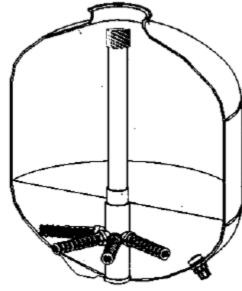

Fig. 13
2. Place the diffuser complete with the tube underneath the tank. Refill the tank with water until the first line you can see on the tank (Fig. 13). This procedure give stability to the diffuser.